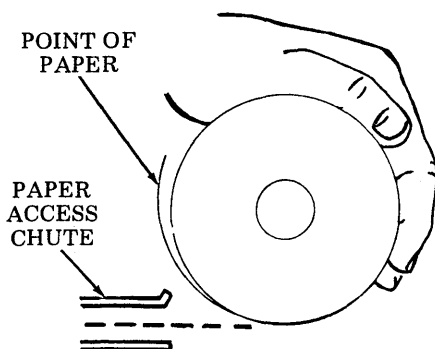

Fig. 48—Feeding Paper in Chute
9.03 Back up roll until point of paper drops behind lip of paper access chute (Fig. 48).